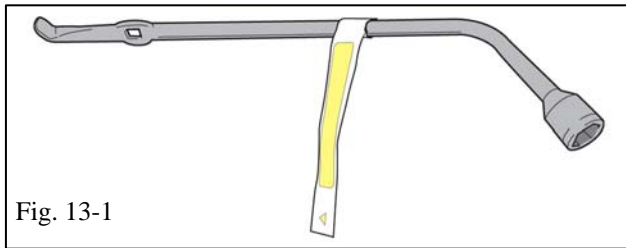

Fig. 13-1
- (b) Attach the spare tire warning label to the vehicle lug wrench as shown (Fig. 13-1) and replace the lug wrench in the vehicle.